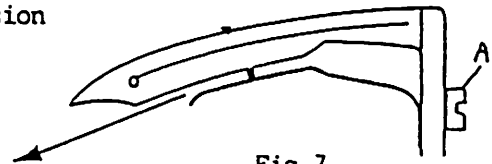

Fig. 7
8) Adjusting retaining spring (Fig.7)